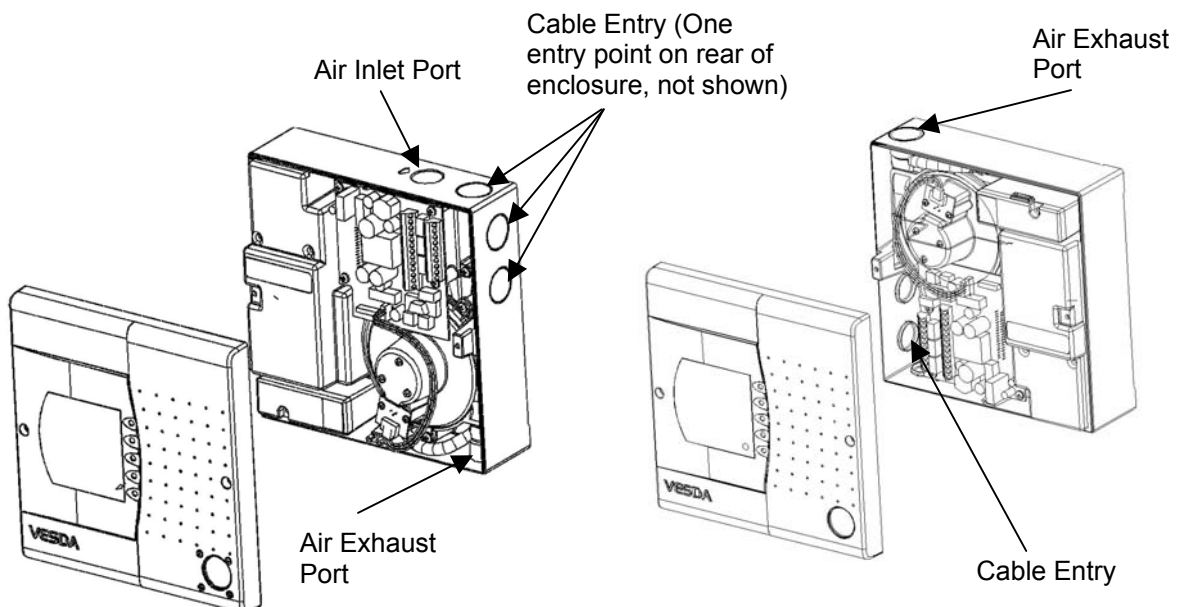

Figure 3 LaserCOMPACT Orientation, Normal (left), Inverted (right)
- (c) Identify the location where the detector is to be mounted. The LaserCOMPACT can be mounted on a wall or a suitable secure surface. There are two allowable mounting positions for the LaserCOMPACT as shown in Figure 3 and listed below.